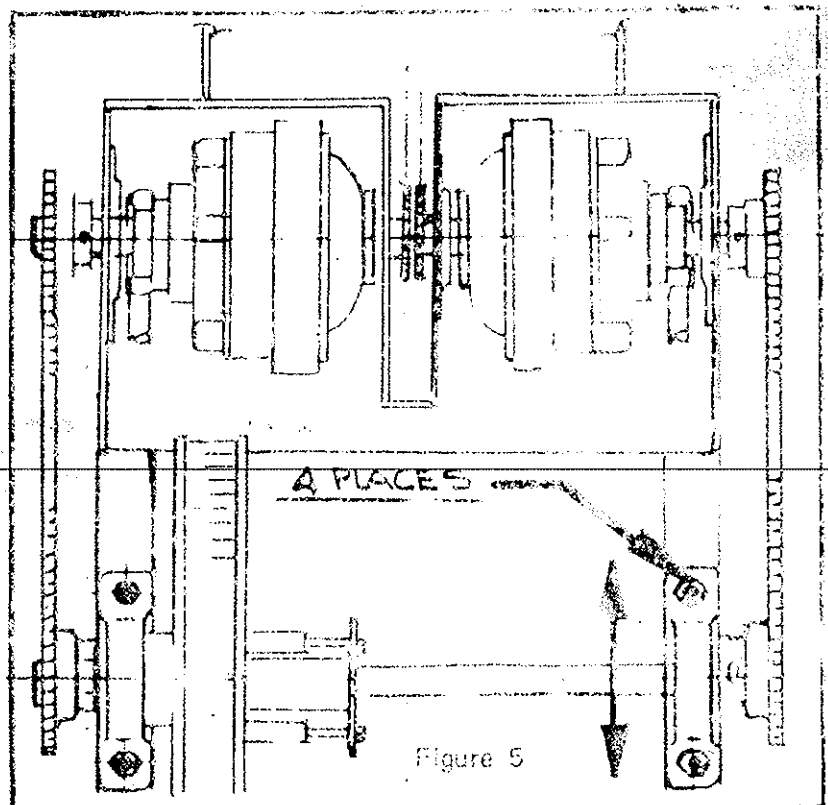

Figure 5
B. Main Drive Chain Adjustment - 8-wheel (See Figure 5)
1. Loosen 4 bolts on 2 pillow blocks as shown in Figure 5.